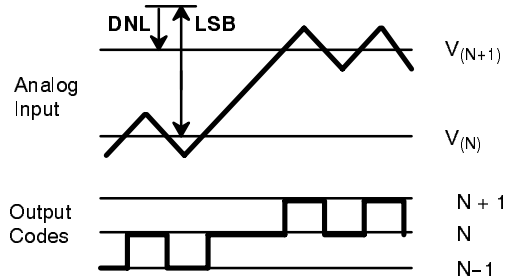

Figure 11. DNL Measurement
- 1 Tester measures code transitions by dithering the voltage of the analog input (V_{IN}). The difference between the measured and the ideal code width ($V_{REF}/256$) is the DNL error (Figure 11.). The INL error is the maximum distance (in LSBs) from the best fit line to any transition voltage (Figure 12.) Accuracy is a function of the sampling rate (FS).